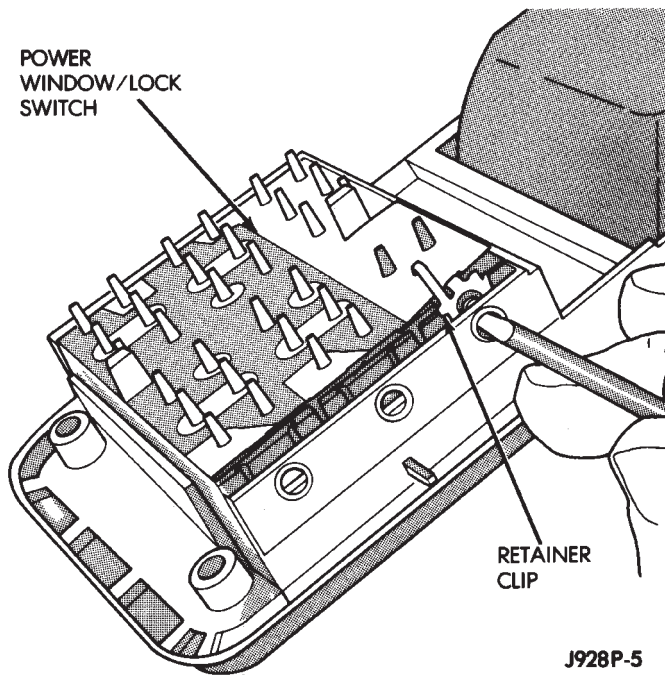

Fig. 5 Power Lock Switch Remove
- (2) Disconnect the control linkage and the wire harness connector.
- (3) Remove the latch release and control panel assembly.
- (4) The switch is retained to the panel with clips (Fig. 5). Push in on the retainer part of the clip and pry the clips.
- (5) To install switch, position switch and press in retainer clips until they snap into position. Reverse remaining removal procedures to complete installation.